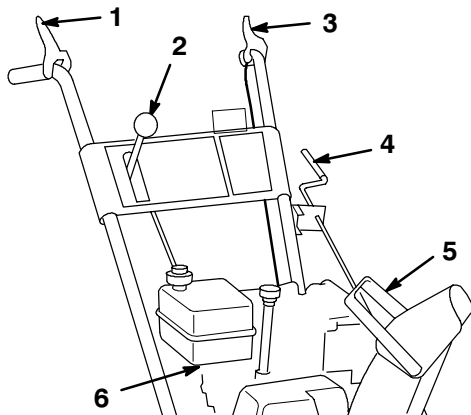

Figure 14
- **Auger/Impeller Drive Control Lever** (Fig. 14)—To engage both the auger and impeller, press the lever against the right handgrip. To disengage, release the lever.
- **Speed Selector** (Fig. 14)—This control has four positions: three forward speeds and one reverse. To change speeds, move the gear shift to the desired position. The lever locks in a notch at each speed selection.
- **Traction Control Lever** (Fig. 14)—To engage the traction (wheel drive), press the lever against the left handgrip. To stop traction, release the lever.
- **Discharge Chute Control** (Fig. 14)—Rotate the discharge chute control clockwise to move the discharge chute to the left; counterclockwise to move the chute to the right.
- **Chute Deflector Handle** (Fig. 14)—Move the deflector handle forward to move the snow stream down; move it rearward to move the snow stream up.
- **Fuel Shutoff Valve** (Fig. 14)—Close the valve by rotating it to the right to stop the fuel flow from the fuel tank. Open the valve by rotating it to the left. Close the valve when you do not use the snowthrower.
2. Make sure that the auger/impeller drive control lever and the traction control lever are in the *Disengaged* position (Fig. 14).
10. Move the speed selector (Fig. 14) to first gear, squeeze the traction control lever to the handgrip, and then release the traction control lever. If the snowthrower moves forward before engaging the traction drive control lever or after releasing the lever, see *Adjusting the Traction Drive* on page 20.
4. Release the traction control and the auger/impeller drive control levers (Fig. 14).